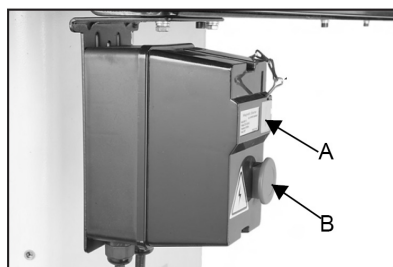

Fig.29
7.1 Electrical Operation(*Fig.29*)